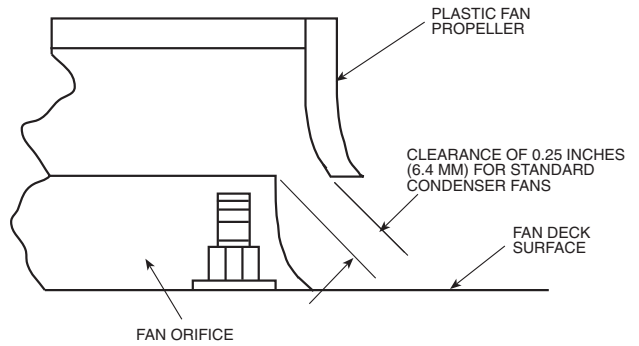

**Fig. 51 — Pulley Alignment**
**PULLEY ALIGNMENT** — For proper belt life, the motor and fan pulleys must be properly aligned. To check, first turn off unit power. Place a straightedge against the motor and fan pulleys. See Fig. 51. If the pulleys are properly aligned, the straightedge should be parallel to the belts.